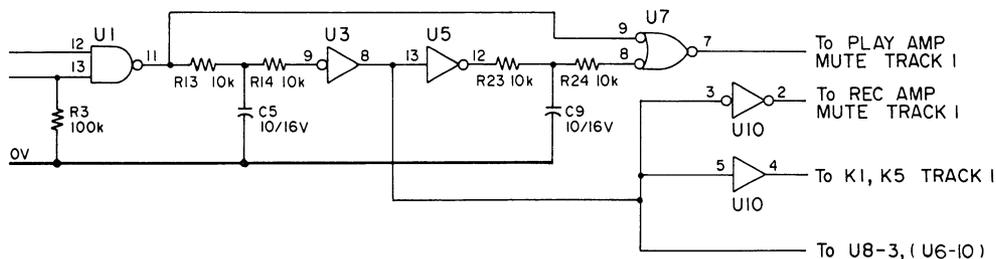

Fig. 4-8
R23 and C9, located before input pin (8) of U7-10, are for preventing clicks, when recording is cancelled, by introducing a slight delay in releasing the playback amplifier muting. Refer to Fig. 4-8.